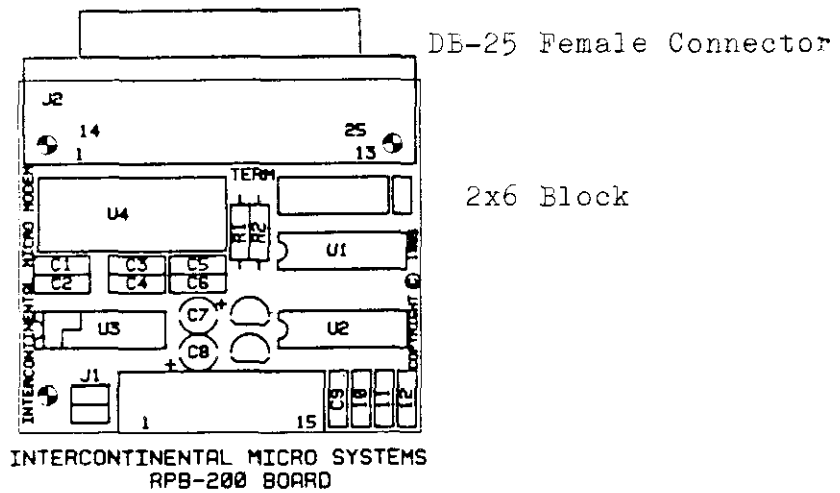

FIGURE 1.8
5. If you want to enable the signal on pin 20 DTR, for Clear-to-Send handshaking, move the jumper from the second to the third position on the 2x6 block. The 2x6 block is the only one on the personality board with a jumper. The 2x6 block is located close to the DB-25 connector as illustrated in Figure 1.8 on the next page.